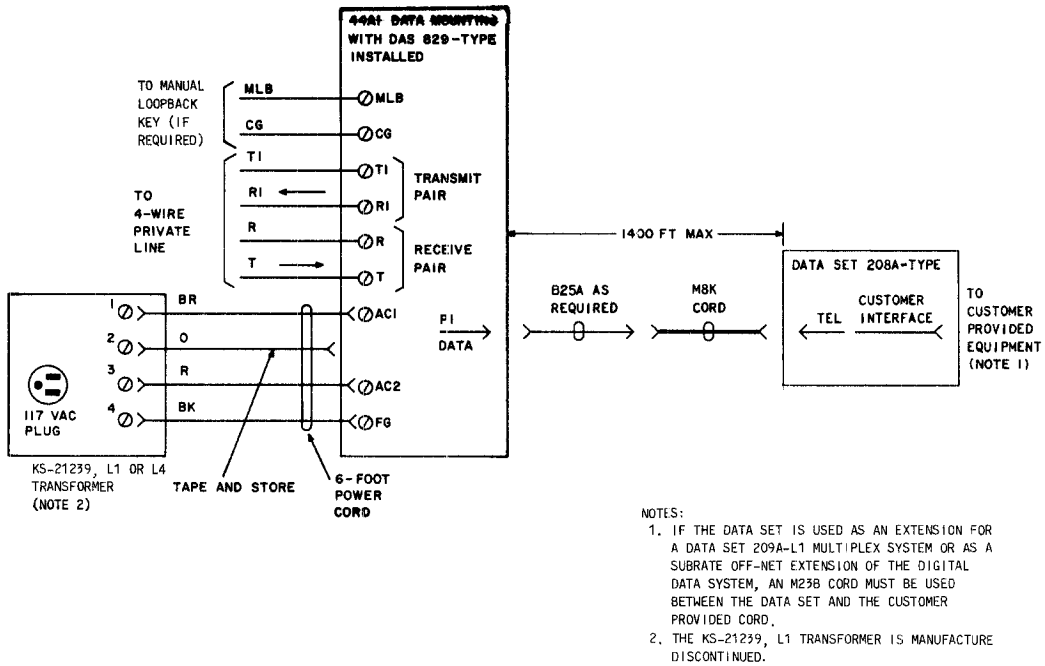

Fig. 2—DS 208A-Type Used With DAS 829-Type, Data Only
**3.02** Refer to Fig. 2 and Fig. 3 for connection between DS 208A-type and DAS 829-type. The data-only connection is shown in Fig. 2 and the data/voice connection is shown in Fig. 3.
set and the customer provided cord. This is shown in Fig. 2 through 9.
**5.01** The 4-wire private line channel to be used with DS 208A-type must meet the requirements given in Section 314-410-500. Connections for the various data station configurations are shown in Fig. 2 through 9. Install DAS 829 (or equivalent), if required, per Section 598-082-200 or Section 598-082-201 as required. Install DAS 828A and DAS 828C (or equivalent), if required, per Sections 598-080-200 and 598-080-201, respectively.